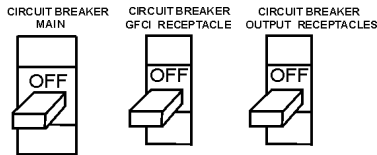

Figure 28. Main and receptacle circuit breakers
1. Switch the circuit breakers to 'OFF' position (Figure 28).